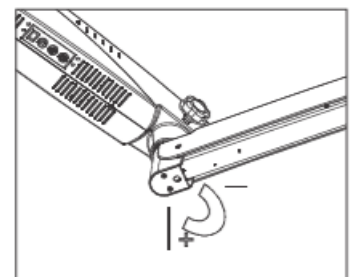

Fig. 51
2. Loosen two allen bolts by using allen wrench of 4 mm as shown in fig.51.